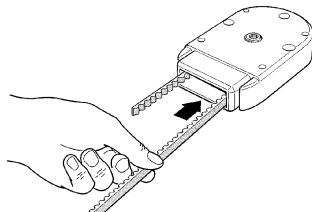
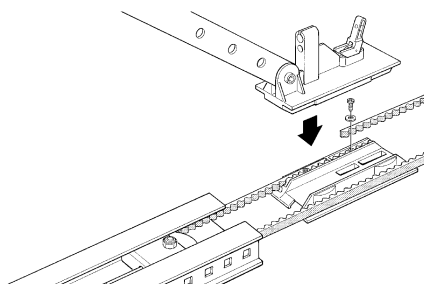

Figure 20
Figure 21
**4** Pass the free end of the belt through the head section, as shown in figure 20, and secure to the carriage by means of the screws and washers present, as shown in figure 21. Take care when positioning the belt; the teeth must be facing inwards, and it must be straight without twists.